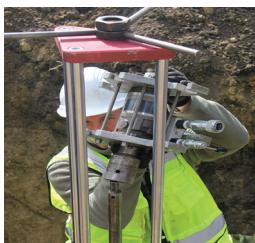

FIGURE 32
2.8.12) Lower the drive unit onto the machined hex of the saw mandrel. Confirm the drive unit is fully seated onto the machined hex of the saw mandrel (see Figure 32 on next page).